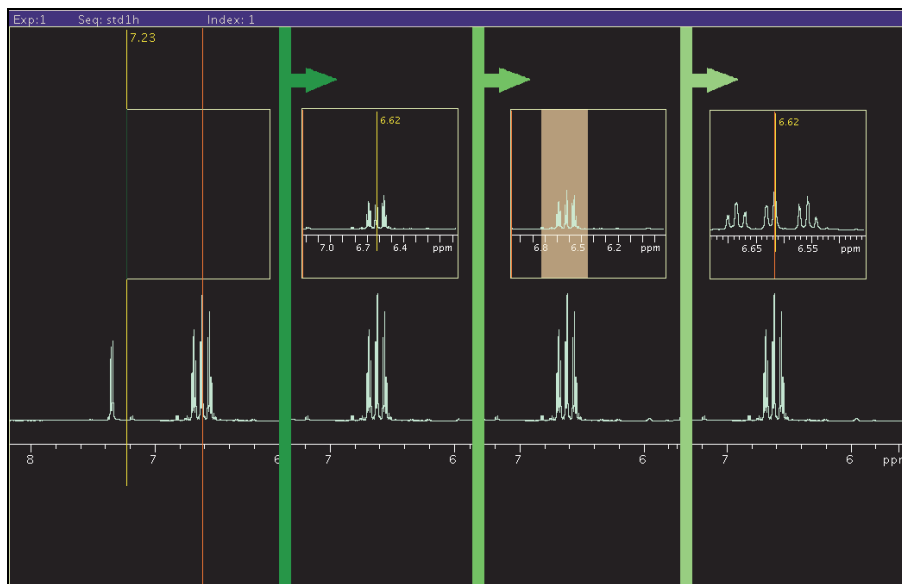

Figure 9 Creating an Inset Frame
2. Place the cursor at the low field (left) side of the region to be expanded as shown in Figure 9, frame 1a.
4. Drag the cursor down to set the height of the inset frame as shown in Figure 9, frame 1b.
5. Release the mouse button to create the inset frame, see Figure 9, frame 2.